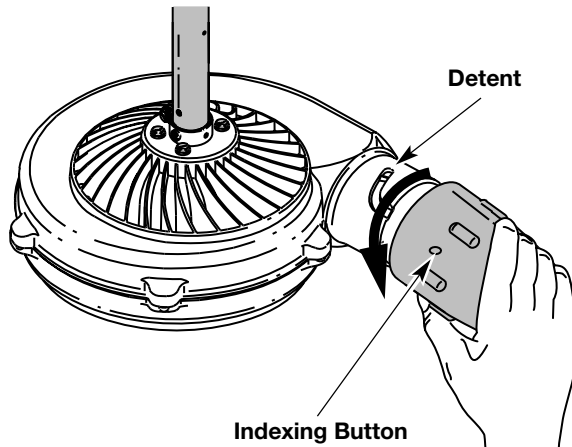

Fig. 8
1. Grasp the nozzle and turn it counterclockwise approximately 45° until the indexing button on the inside of the nozzle snaps out of the detent in the blower housing (Fig. 8). Pull the nozzle off of the blower housing.